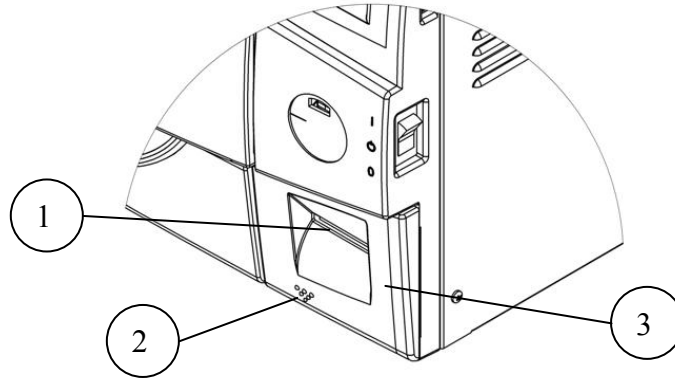

Fig. 1
1. Open the printer's cover door (3) by pulling it at the left bottom corner (2) as shown on **Fig. 1**.
5. Close the printer's cover door (3) by pressing corner (2), with the tip end of the paper emerging from the slot (1) as shown on **Fig. 1**.